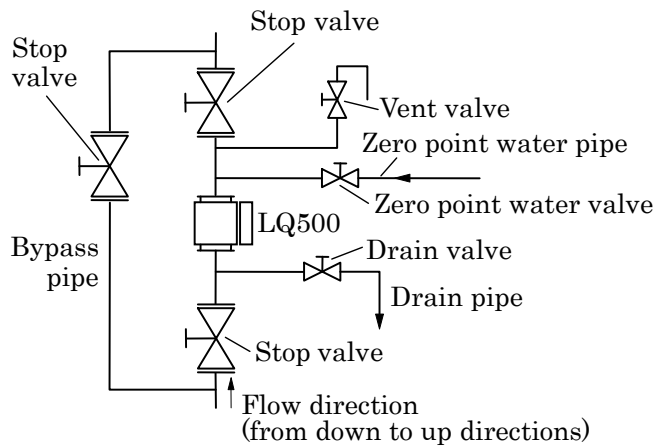

Figure 6. Recommended Installation (vertical installation)
- (5) We recommend that this density meter should be installed to a vertical piping system. Horizontal installation can also be used with the same performance but under the following conditions, vertical installation must be recommended:
- (6) When installing on the horizontal piping, make sure that RF section must be on the top for purposes of maintenance and performance assurance (in other words, so that the paired applicator sections are placed directly side by side).
- (7) This density meter does not distinguish between the upstream side and the downstream side. Neither does it require a straight tube length. Install it in a direction that will make maintenance easy.
- (8) When you anticipate a marginal error between the side-to-side dimensions of this density meter and the installation space of the piping line, prepare a loose mechanism in advance.
- (9) To minimize the impact of the bubbles mingled, it is recommended that the meter be installed on a location as far as possible from the pipe outlet for air release but still within the distance where a reasonable degree of hydraulic pressure is applied.
- (10) In the event that the density meter may no longer be full of the fluid while the pump is shut down or the density distribution in the density meter may become uneven, make sure to take measurements only while the pump is operating by using the external synchronized function.
- (11) Take necessary measures to prevent vibration from a pump or other equipment applied to the density meter transmitted through the piping.
- (12) On both the upstream and downstream sides of the density meter, install stop valves. Furthermore, between these valves and the density meter, install the sampling port, the zero water supply port, the air release port, the drain port with a stop valve attached respectively. In the event that the flow of the pipe line cannot be stopped, provide a bypass pipe halfway with a stop valve attached. When performing zero point calibration, these are needed to discharge the measured matter out of the density meter through its drain port and fill up the meter with fresh water of zero density. (See Figure 6 and Figure 7)
- (13) As for gaskets to be used in piping, select the one with the dimension conforming to the flange standard and of the material appropriate for the substance to be measured.
- (14) The front side of the density meter's converter section is equipped with an LCD density display section. When installing the meter, choose a location and direction in which this density display section will be easily visible.
- (15) If the cover of the density meter is removed or the density meter is disassembled while the meter is powered, radio waves will leak out. (However, the amount is about equal to PHS and one tenth of mobile phones.)
- (16) For both horizontal and vertical piping systems, install a support stand under the density meter with bolts put through the installation holes (M8 size) on the bottom of the density meter. Then install the support stand together with the density meter to a solid ground or wall. Bolts (four M8 bolts) are not attached as accessories of the density meter. Please prepare these bolts separately